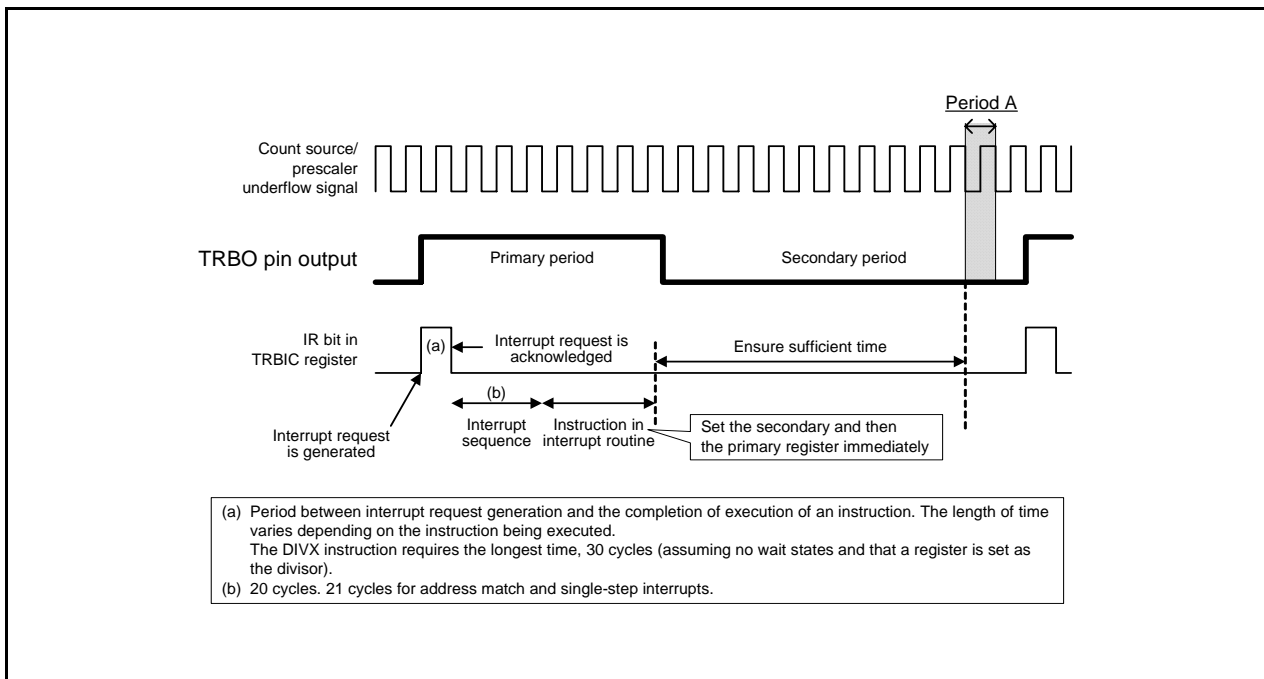

Figure 23.2 Workaround Example (a) When Timer RB interrupt is Used
(1) To write to registers TRBPRES and TRBPR during count operation (TCSTF bit is set to 1), note the following points:
(2) To change registers TRBPRES and TRBPR during count operation (TCSTF bit is set to 1), synchronize the TRBO output cycle using a timer RB interrupt, etc. This operation should be performed only once in the same output cycle. Also, make sure that writing to the TRBPR register does not occur during period A shown in Figures 23.2 and 23.3.
As shown in Figure 23.2, write to registers TRBSC and TRBPR in the timer RB interrupt routine. These write operations must be completed by the beginning of period A.